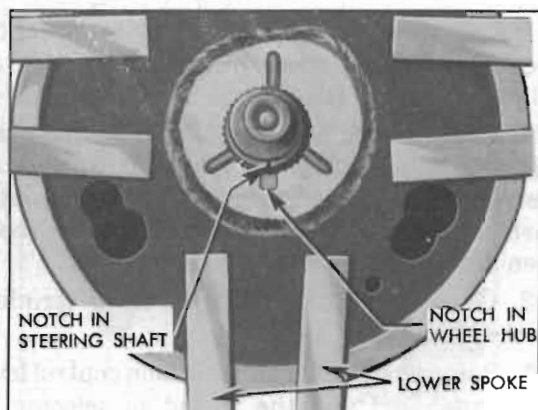

Figure 7-9—Location Marks on Steering Shaft and Wheel
2. Location marks for proper installation of steering wheel on steering shaft are provided to insure a vertical position of the steering wheel lower spoke when front wheels are in straight-ahead position. The upper end of steering shaft has a small location notch, the solid spoke wheel has a keyway, and the flexible wheel has a U-shaped notch. These location marks on shaft and wheel must be in line when wheel is installed. See figure 7-9.